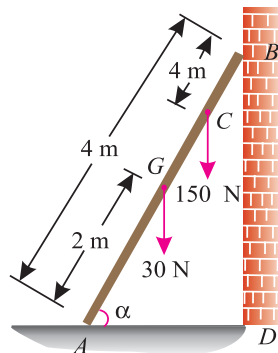

Fig. 9.9.
2. A ladder shown in Fig. 9.9 is 4 m long and is supported by a horizontal floor and vertical wall. The coefficient of friction at the wall is 0.25 and that at the floor is 0.5. The weight of the ladder is 30 N and is considered to be concentrated at G. The ladder also supports a vertical load of 150 N at C.